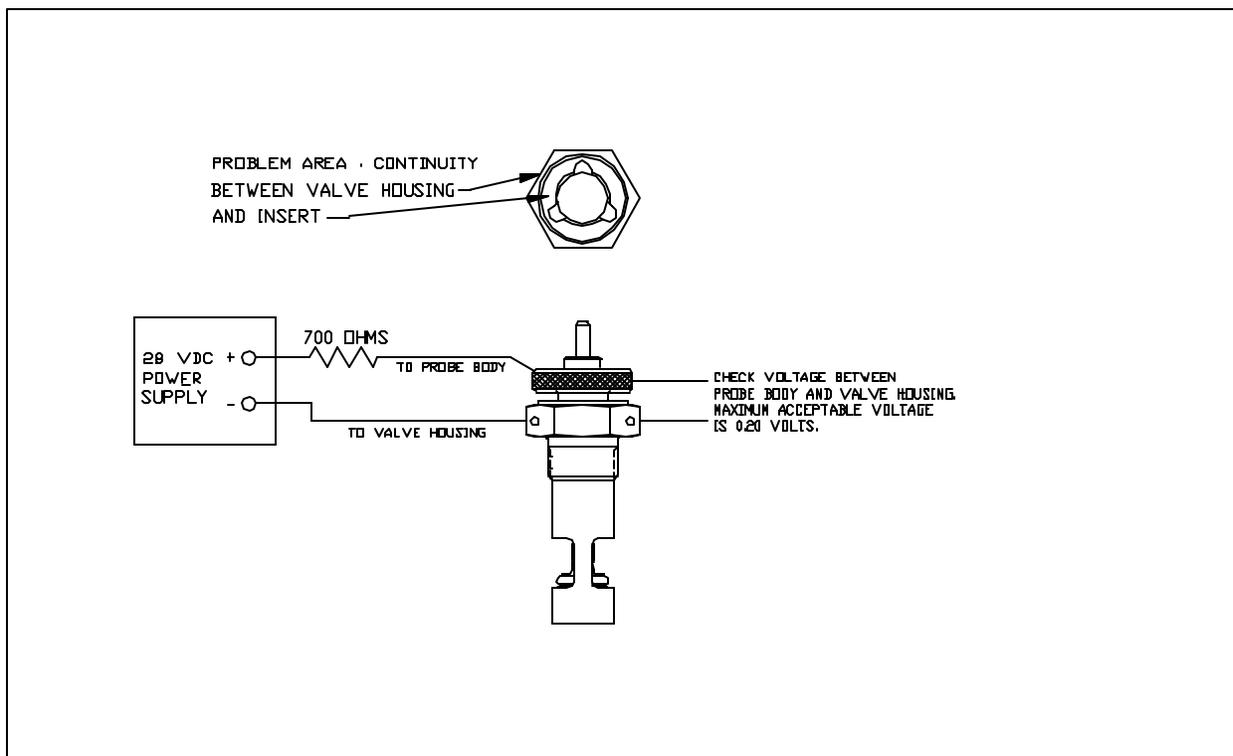

FIGURE 1
1. Connect the chip detector to a 28 Volt DC power supply using a 700 ohm, 2 watt resistor as shown in Figure 1.